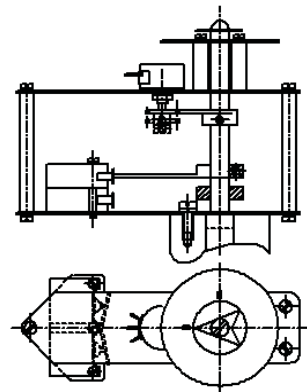

Fig.1 Limit control and openness mechanism
1.3.3 Limit control and position indicator: this mechanism is led by output shaft (90° turns), limit cam, pointer (90° rotation in one travel). Potentiometer is used to control remote electrical signal, applying step-up gearing to transfer. (Refer to Fig.1)
F. Electrically operate the valve for one stroke to make sure the controlling is in good condition. Check again if the screws on the cams are fastened firmly. Till now, adjustment for open stroke and closing stroke are finished. (See Fig.1)
A. When the valve is at a limit position, unscrew the pointer's screws to have it pointed at the corresponding scale and then fasten the screw. See Fig.1